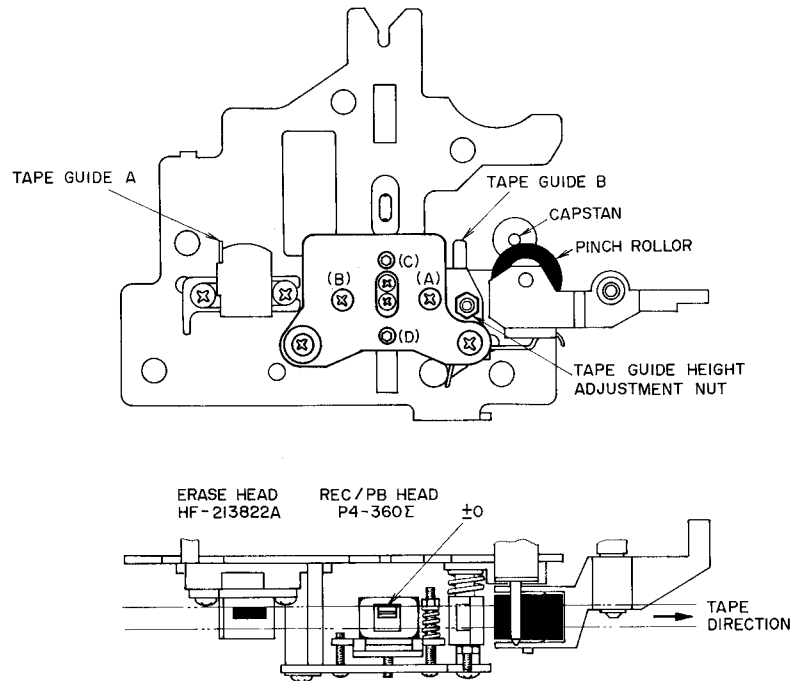
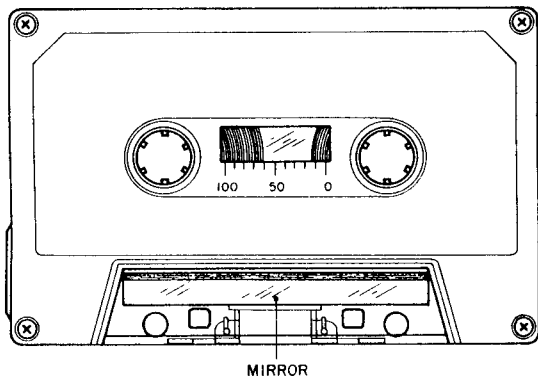

Fig. 8 Head Adjustments
Fig. 9
### 1. TAPE GUIDE HEIGHT ADJUSTMENT (Refer to Fig. 8 and Fig. 9)
- 1) When using an ordinary cassette, the tape guides and heads, etc. are not visible. As shown in Fig. 9 use a cassette tape from which part of the cassette case has been cut out and a mirror installed for easy visibility of the head area when making tape guide height adjustment.
- 2) At playback mode, using the Tape guide (A) shown in Fig. 8 as standard for height, adjust tape guide (B) height with tape guide height adjustment nut so that the tape runs smoothly and does not catch on the tape guides.
### 2. RECORDING/PLAYBACK HEAD HEIGHT ADJUSTMENT (Refer to Fig. 8)
- 2) As shown in Fig. 8, adjust head height with screws (A), (B), (C) and (D) until the upper edge of the tape is the same height as the upper edge of the left channel REC/PB head core.
### 3. RECORDING/PLAYBACK HEAD AZIMUTH ALIGNMENT ADJUSTMENT (Refer to Fig. 8)
- 1) Playback a 10 kHz pre-recorded cassette azimuth alignment test tape and adjust screw (A) shown in Fig. 8 to obtain maximum output on both channels.
4. When a mirror installed cassette test tape as shown in Fig. 9 is required, it can be ordered from AKAI Electric Co.